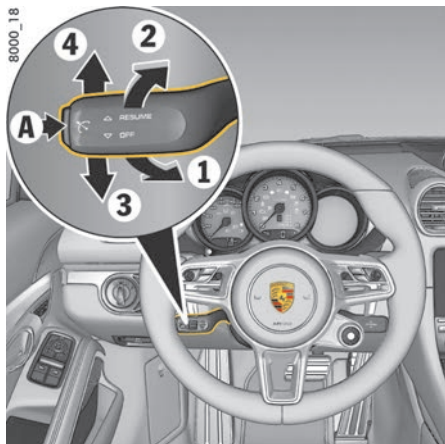

Fig. 70: Control stalk for cruise control
- ▶ To increase the speed, press the control stalk on the steering wheel forwards (Fig. 70: **1**).
- ▶ To reduce the speed, pull the control stalk towards the steering wheel (Fig. 70: **2**).
- ▶ Press the control stalk down (Fig. 70: **3**)
- ▶ Press the control stalk up (Fig. 70: 4).